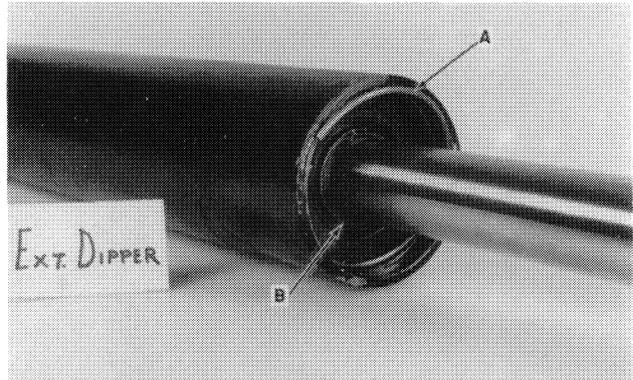

FIGURE 2-23
2. Remove the elbow in the port of the piston end of the cylinder. Drive the head into the barrel and remove the lock ring, A, Figure 2-23.